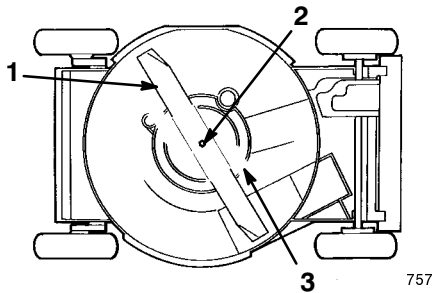

Figure 18
- Tip the lawn mower onto its **right** side (air filter up) (Fig. 18).